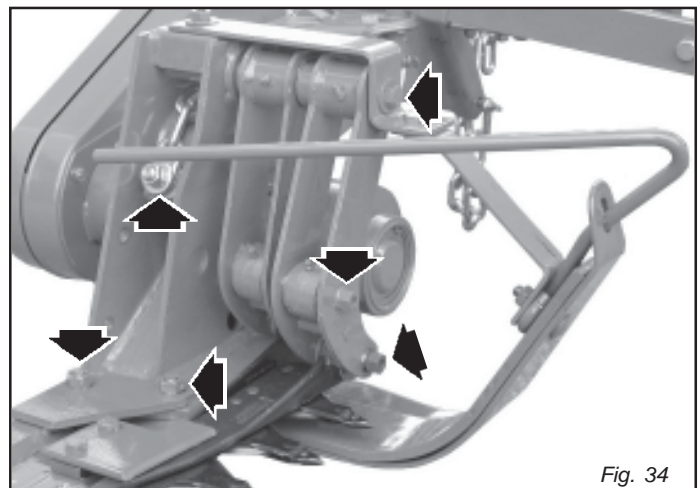

Fig. 34
- Check the tightness of the connecting rod bolts regularly (Fig. 34).